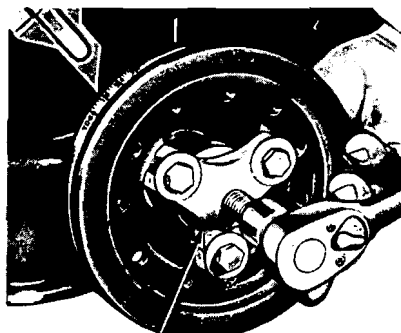

FIG. 41—Crankshaft Damper Removal
6. Remove the cap screw and washer from the end of the crankshaft. On a vehicle with power steering, remove the power steering pulley from the crankshaft damper. Install the puller on the crankshaft damper (Fig. 41) and remove the damper.